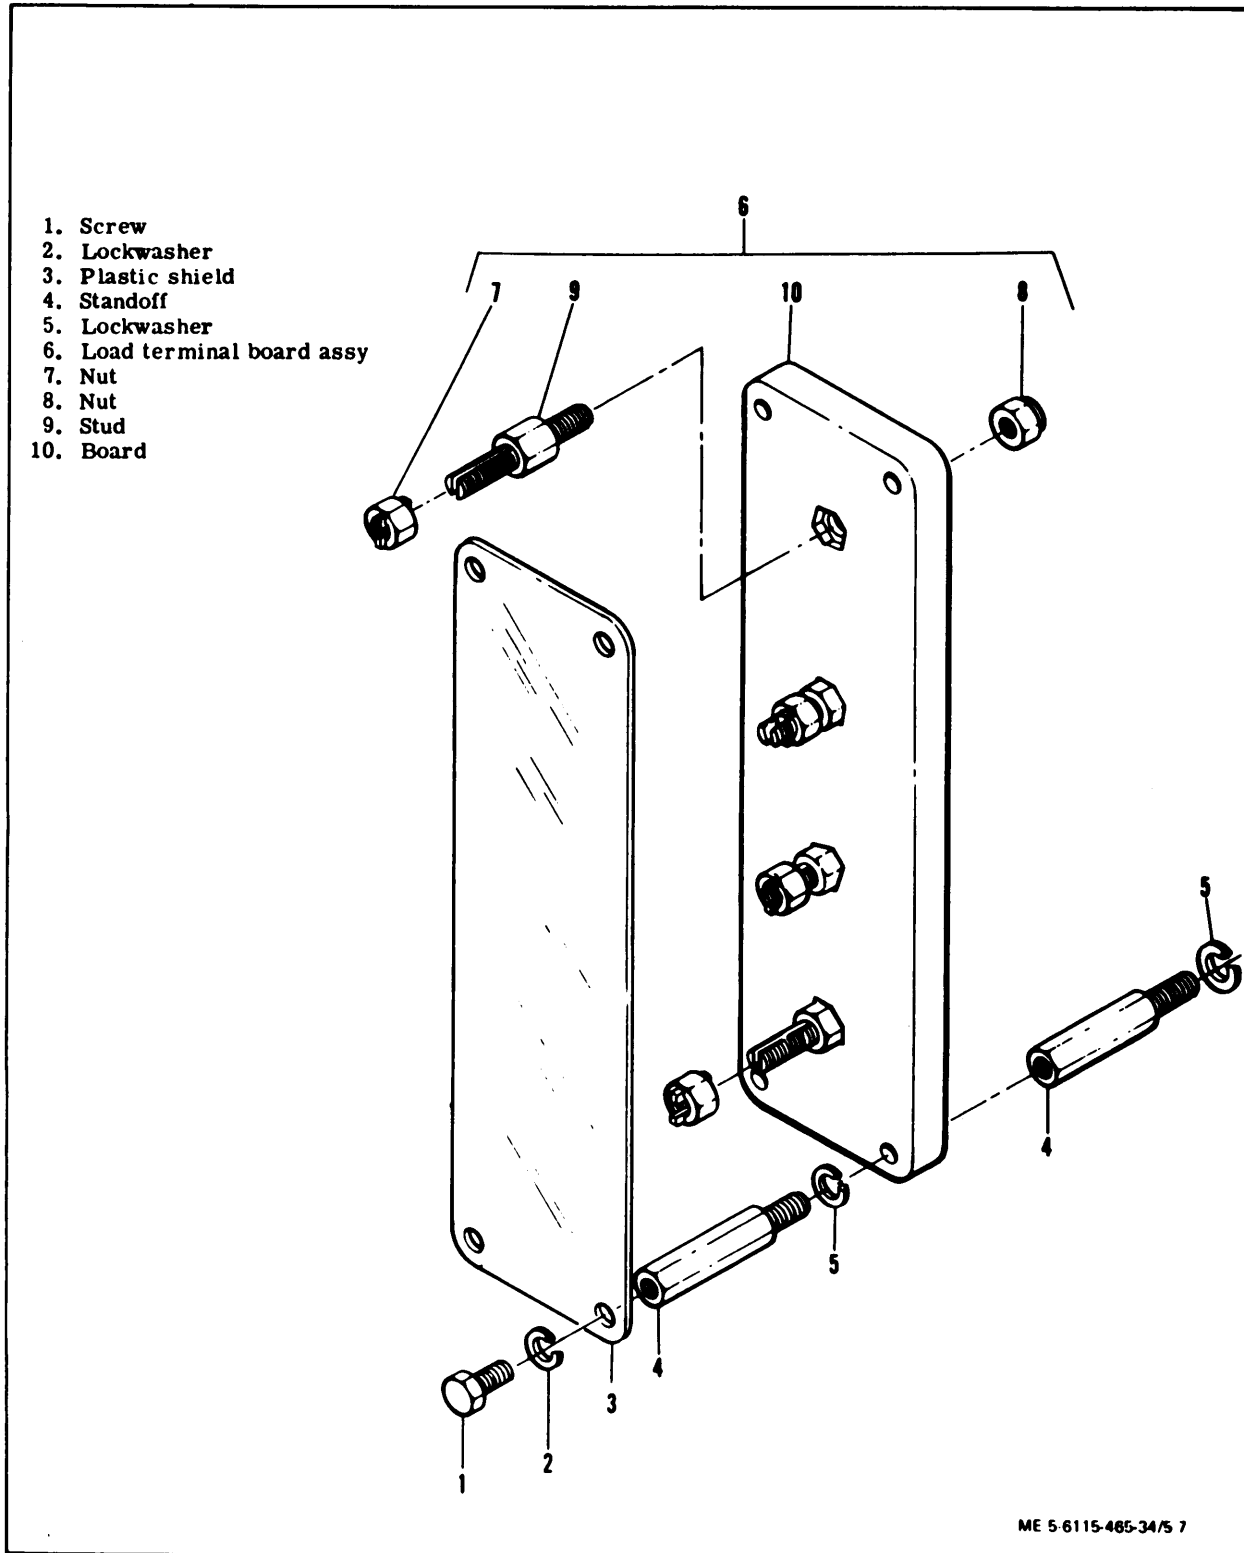

Figure 5-7. Load Terminal Board Assembly, Exploded View
- (1) Tag and disconnect electrical leads to load terminal board assembly.
- (2) Remove screws (1, figure 5-7), lockwashers (2) and plastic shield (3).
- (3) Remove stand-off (4) and lockwashers (5) to remove load connection terminal board assembly (6).
7 through 10, figure 5-7) only as required to replace defective parts during inspection procedures.